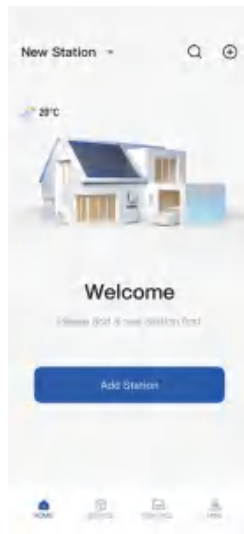

Fig. 5
- Tap "Add station" on the page, as shown in Fig. 5.